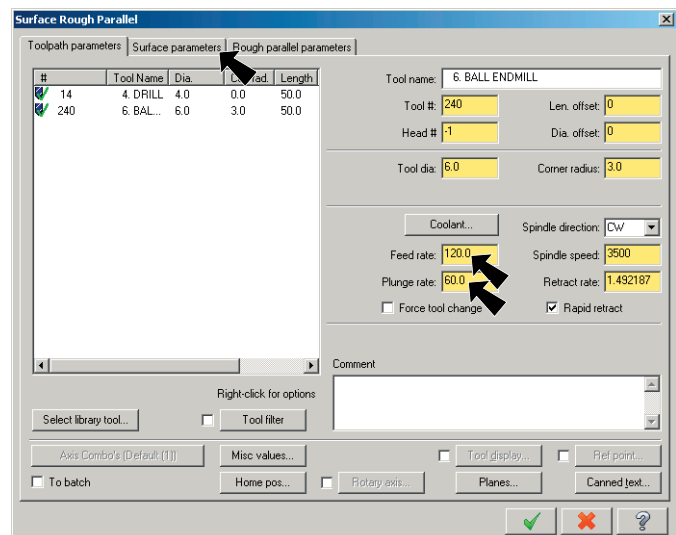

Fig. 74
Step 1. Set **Feed rate: 120** **Fig. 74**.
Step 3. Click the **Surface parameters** tab at the top of the dialog box, **Fig. 74**.